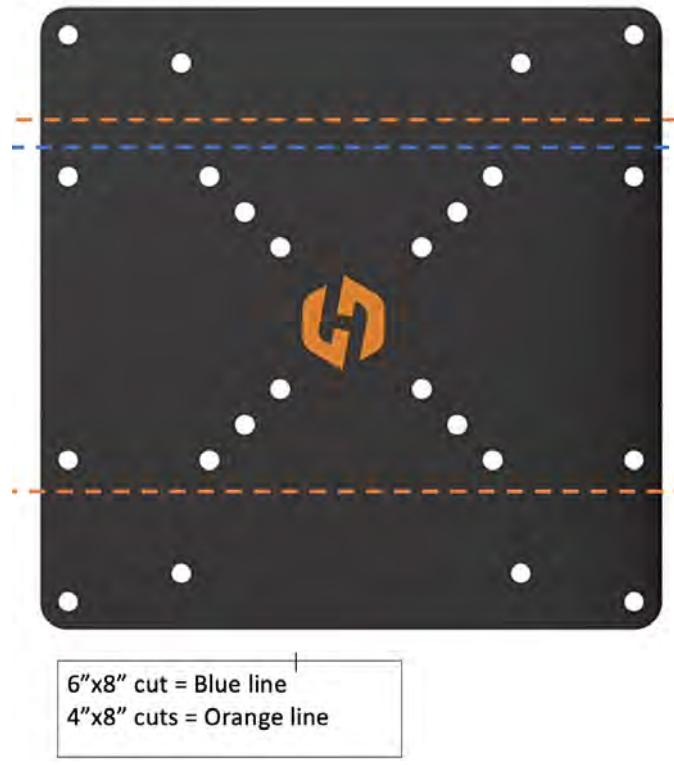
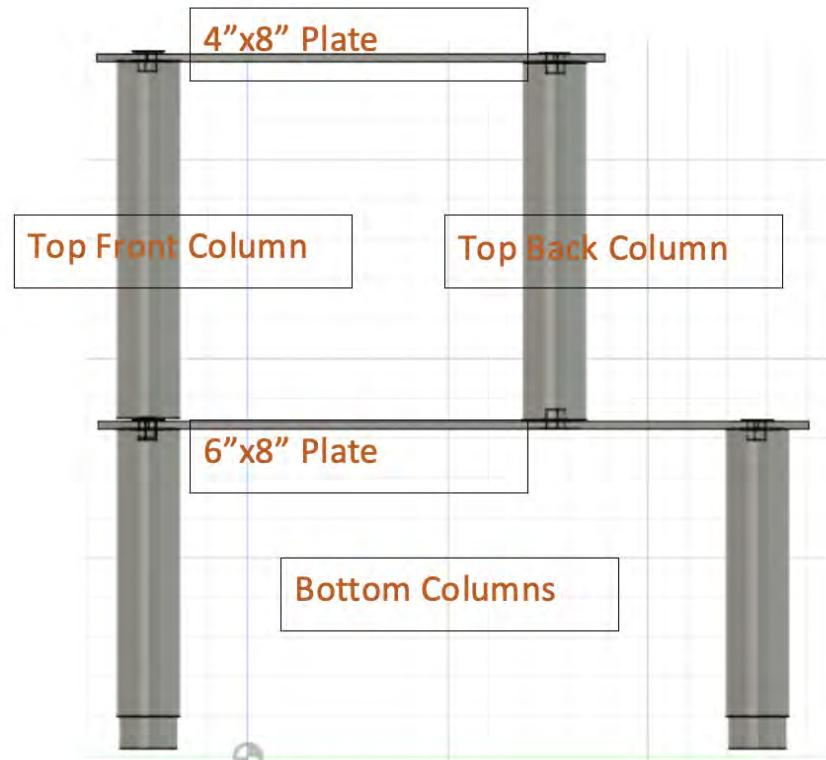

Fig. 44 (Hardware cutting lines)
Fig. 45 (Hardware plate assembly)
8. Assemble Hardware mount- Print of files named (6*BottomColumn, 2*TopBackColumn, 2*TopFrontColumn) using either PLA or ABS filament, and acquire the two hardware mounts seen in the parts list, Appendix x. First cut down the plates as seen in (Fig. 44), this will result in a (6"x8") plate and a (4"x8") plate. Using super glue secure the Bottom Columns to the corner holes of the (6"x8") plate, the smaller diameter peg will fit into the plate holes, glue into place with super glue. The bottoms of the Top Front Columns have a small pentangular peg that will slot into the pentagonal hole in the tops of the bottom columns. These two parts will sandwich the (6"x8") plate as seen in (Fig. 45). The Top Back Columns will slot into the holes on the (6"x8") that are 4" from the front of the plate. Finally glue the (4"x8") onto the tops of the Top Columns.